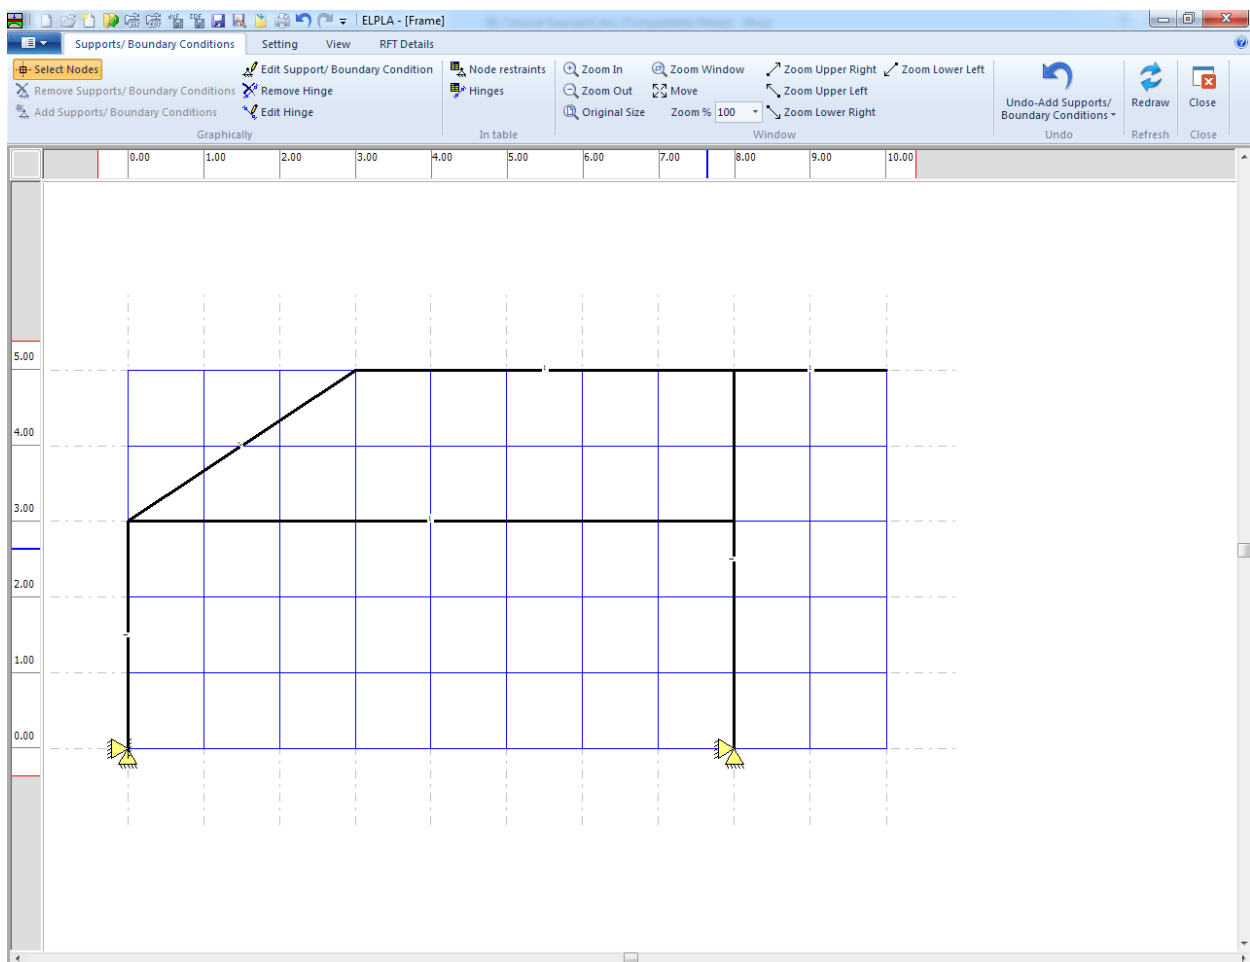

Figure 7.23 Supports
After you have completed the definition of supports, the screen should look like the following Figure 7.23.
- Choose "Save" command from "File" menu in Figure 7.23 to save the data of supports
- Choose "Close" command from "File" menu in Figure 7.23 to close the "Supports/ Boundary Conditions" Window and return to *ELPLA* main window.